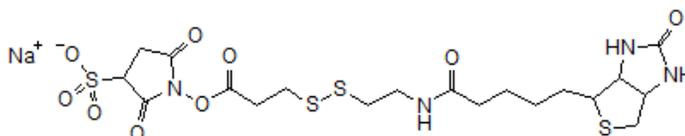

Fig. 1 Chemical structure of Sulfo-NHS-SS-Biotin [sulfosuccinimidyl-2-(biotinamido) ethyl-1,3-dithiopropionate].
The Thermo Scientific™ Pierce™ Cell Surface Protein Biotinylation and Isolation Kit enables biotinylation and isolation of cell surface proteins for Western blot analysis or mass spectrometry applications. Mammalian cells (adherent or in suspension) are first labeled with Thermo Scientific™ EZ-Link™ Sulfo-NHS-SS-Biotin (Figure 1), a thiol-cleavable amine-reactive biotinylation reagent. Cells are subsequently lysed with detergent and the labeled proteins are then isolated with Thermo Scientific™ NeutrAvidin™ Agarose. The bound, labeled proteins are released by reduction of the disulfide bond with 10 mM DTT. The appendix includes information on how to prepare samples for mass spectrometry (MS) analysis.